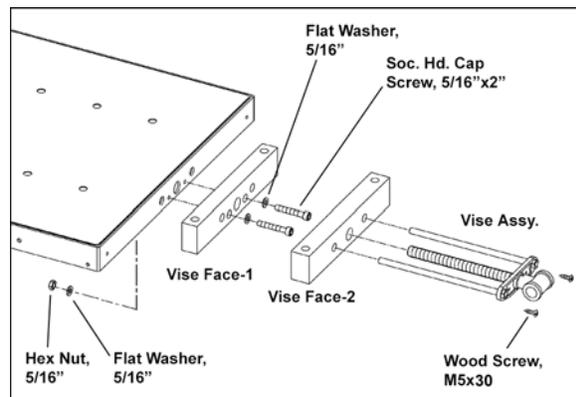

Figure 7
2. With table still lying flat, mount the *vise face-1* to the steel frame. The top surface of *vise face-1* should be flush with the top surface of the workbench. Secure *vise face-1* with two *5/16"x2"* *socket head cap screws*, four *5/16"* *flat washers*, and two *5/16"* *hex nuts*, as shown in Figure 7.
4. Make sure *vise face-1* and *vise face-2* are flush at the top surfaces, then insert two *M5x30 wood screws*. See Figures 7 and 8. Continue holding the vise faces flush while tightening the wood screws.